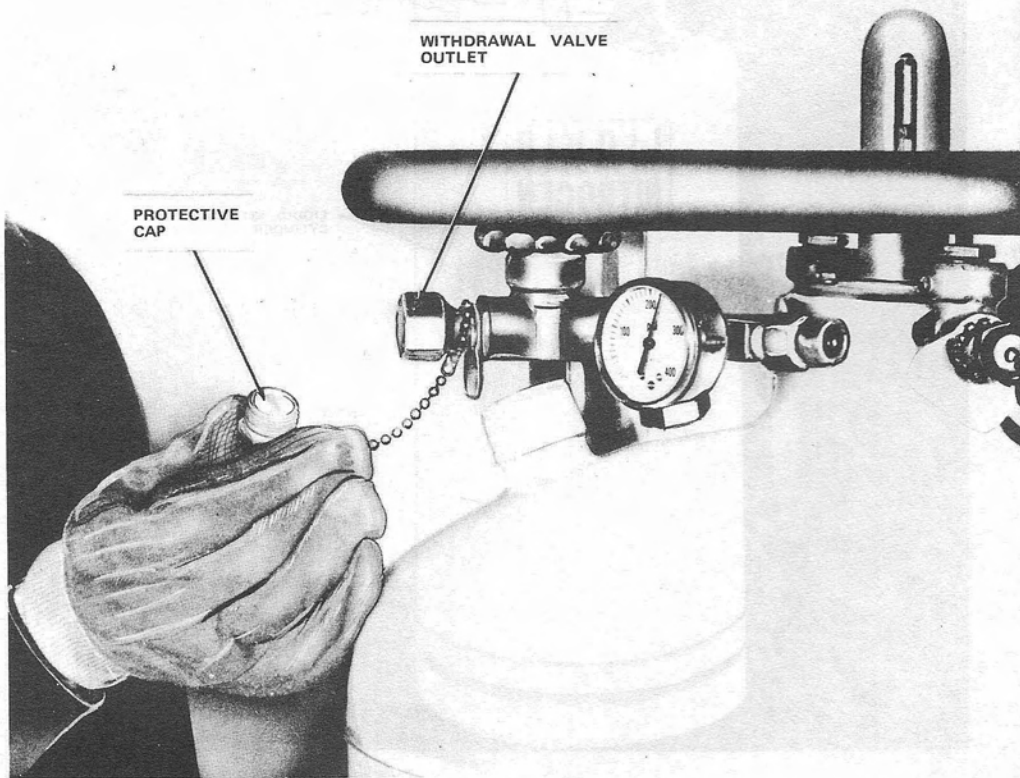

Fig. 7—Removing Protective Cap From Withdrawal Valve Outlet
- (2) Remove protective cap from withdrawal valve outlet (Fig. 7).
- (4) Open the **pressure building valve** and **withdrawal valve** fully counterclockwise. See Fig. 7.